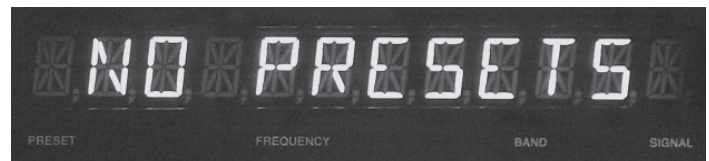

Figure 2
*Note: The PRESET Selection Switch will not access Station Presets that have been left blank. If no Presets have been assigned, the Front Panel Display will show "NO PRESETS" until at least one station has been entered into memory. Refer to figure 2 below.*